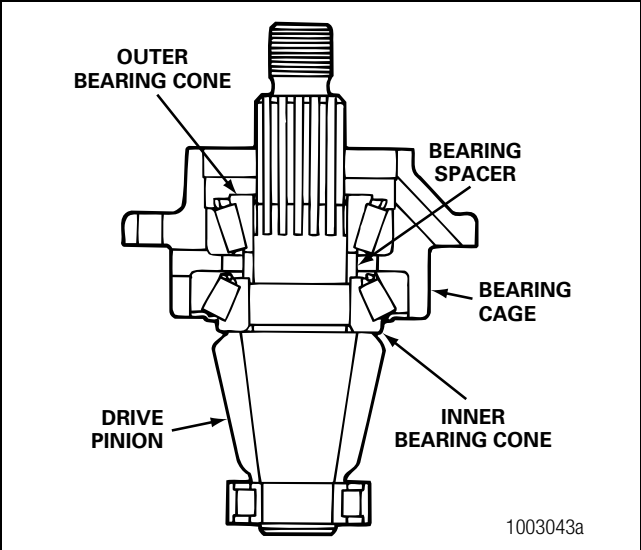

Figure 5.12
- 3. Install the bearing spacer or spacers onto the pinion shaft against the inner bearing cone. Figure 5.12. The spacer or spacers control the preload adjustment of the drive pinion bearings.
- 4. Install the outer bearing cone onto the pinion shaft against the spacer. Do not install the pinion seal into the bearing cage. Figure 5.12.